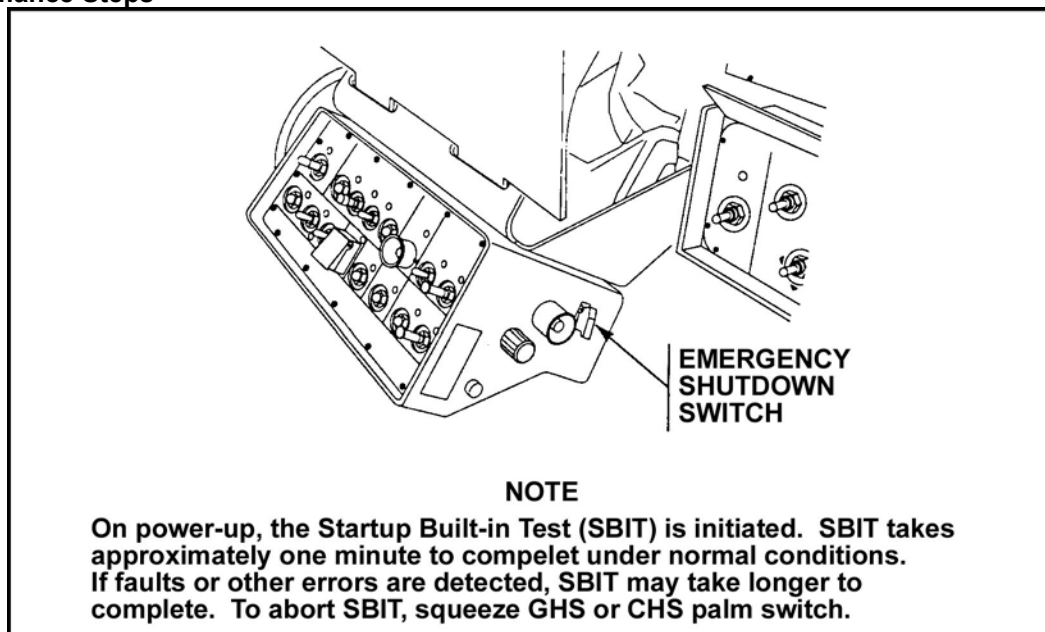

Figure 4. Emergency shutdown switch.
- (1) Press and hold.
- (2) Move the gun elevation drive select lever to the right to the POWER position.
- (3) Release the push button.
- i. Ensure the emergency shutdown switch on the System Control Box (SCB) is OFF (Figure 4).